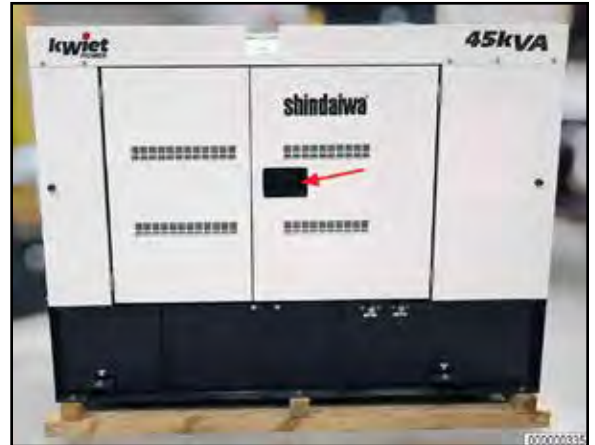

Figure 1
- Step 3: Release the Left Enclosure Rear Door latch. (Figure 1)